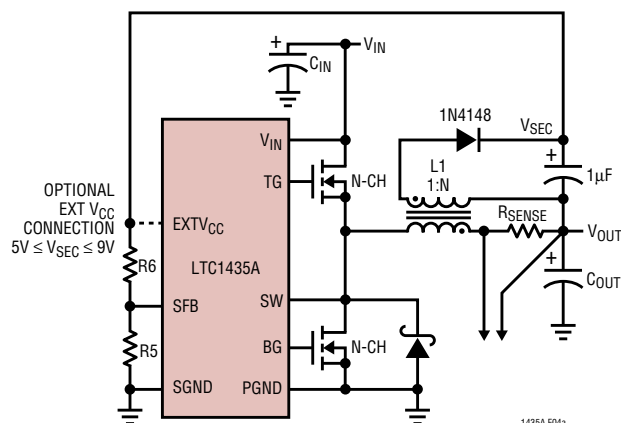
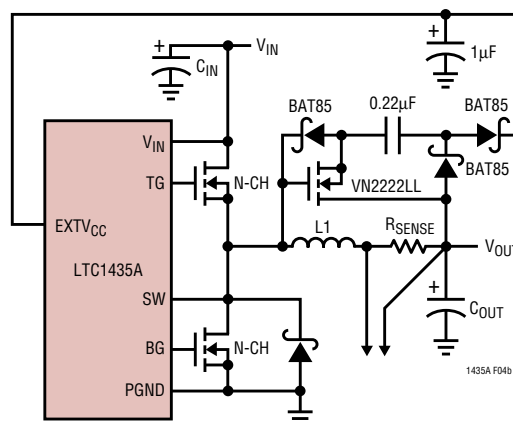

Figure 4a. Secondary Output Loop and  $EXTV_{CC}$  Connection
Figure 4b. Capacitive Charge Pump for  $EXTV_{CC}$
3.  $EXTV_{CC}$  connected to an output-derived boost network. For 3.3V and other low voltage regulators, efficiency gains can still be realized by connecting  $EXTV_{CC}$  to an output-derived voltage which has been boosted to greater than 4.8V. This can be done with either the inductive boost winding as shown in Figure 4a or the capacitive charge pump shown in Figure 4b. The charge pump has the advantage of simple magnetics.
The secondary output voltage is set by the turns ratio of the transformer in conjunction with a pair of external resistors returned to the SFB pin as shown in Figure 4a. The secondary regulated voltage,  $V_{SEC}$ , in Figure 4a is given by: